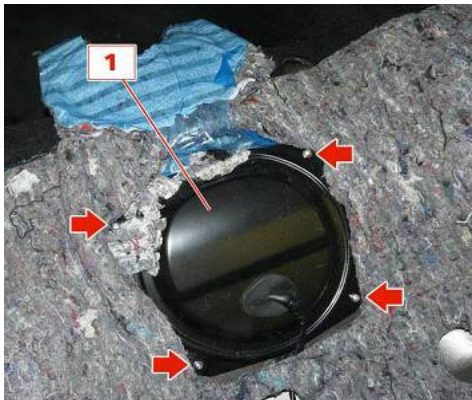

Fig.9
6. a. Remove the 4 screws and then the l/s fuel pump inspection cover (Fig.9).